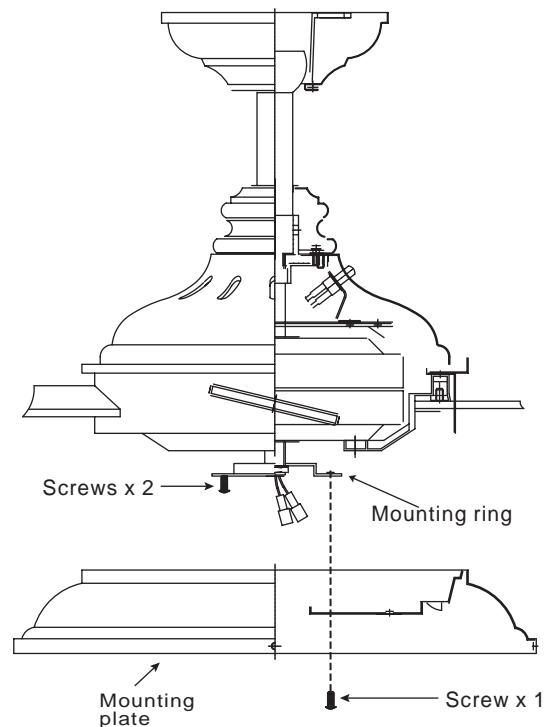

Figure 17
2. Place the key holes on the mounting plate over the 2 screws previously loosened from the mounting ring, turn mounting plate until it locks in place at the narrow section of the key holes. Secure by tightening the 2 screws previously loosened and install the one previously removed. (Fig. 17)